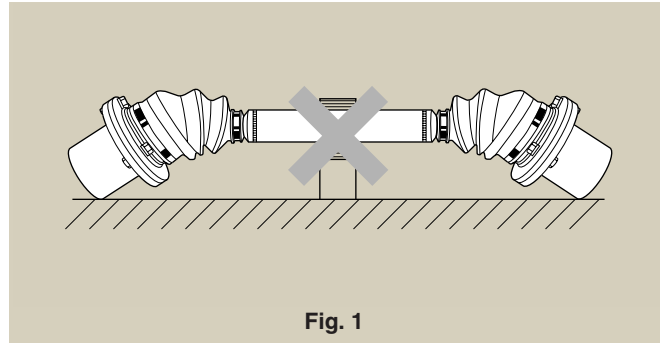
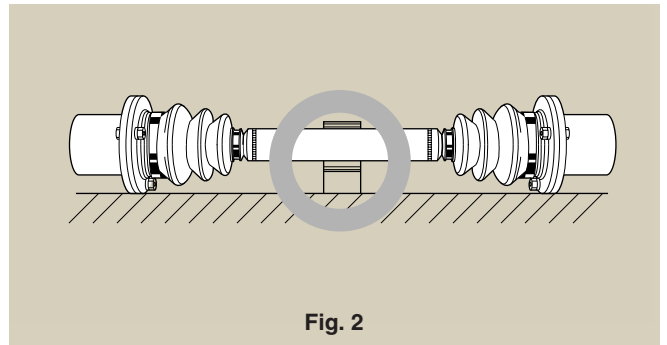

Fig. 1
Fig. 2
Remarks : The sizes of the receiver and special tools for guide must comply with the associated joint numbers (see Fig. 1 and Fig. 2).
- 2) To prevent the boots from being deformed, avoid storing the assemblies in an unstable state (**Fig. 1**). Store them in a stable, horizontal position (**Fig. 2**).